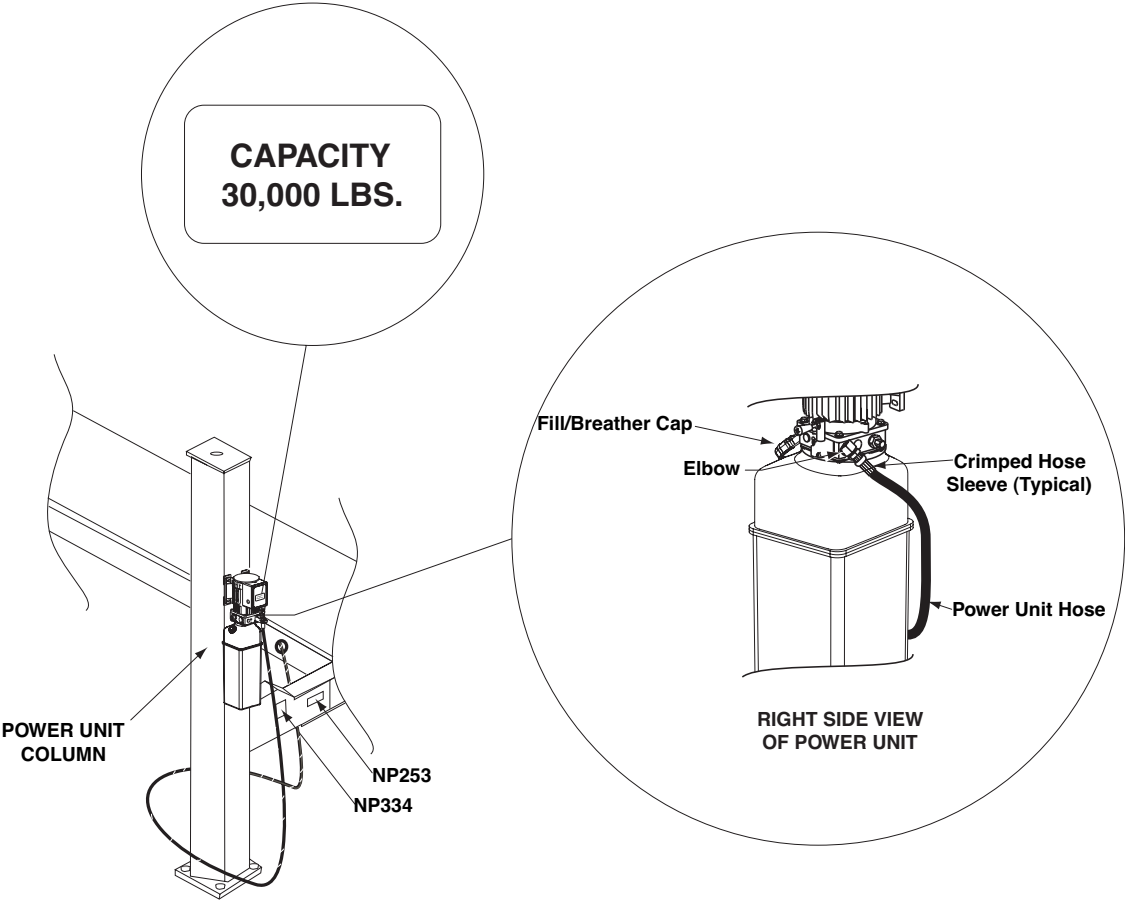

Fig. 17
- D. Run hydraulic hose from runway through slot in side of runway to power unit output port, Fig. 17. DO NOT use Teflon tape on hydraulic hose connections. Install and hand tighten elbow to pump until O-ring is seated and elbow should be oriented downward at approximately 45°, Fig. 17. Tighten locknut to 35-40 ft. lbs.
- E. Install enclosed capacity label on power unit, Fig. 17.
**PRECAUCIÓN** If fill/breather cap, Fig. 17, is lost or broken, order replacement. DO NOT substitute with a solid plug.
- System capacity is twenty-two (22) quarts. Use Dexron III ATF. Remove fill/breather cap and fill vent screw, Fig. 17.